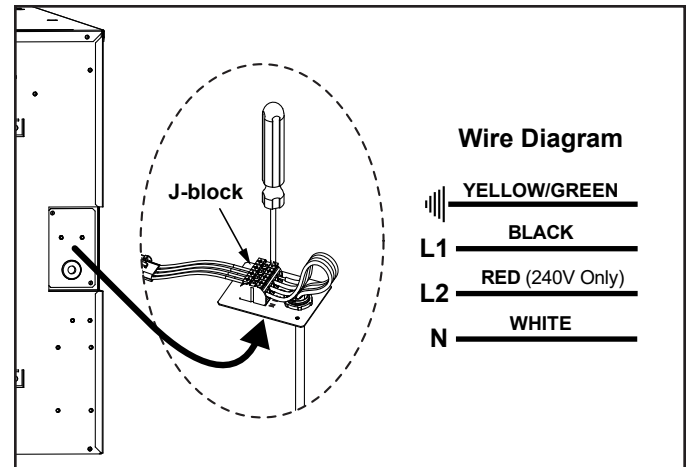

Figure 24 Electrical Connection
1. Remove the J-block plate located on the right side of the appliance. Keep the two (2) screws for J-block plate reassembly.
2. Install a NM-B wire strain relief into the J-block plate. Terminate type NM-B wire to the J-block, ensure connections are secure and tighten the wire strain relief. To load wire conductors into the J-block, depress the spring-loaded terminals on the J-block by hand or with a screwdriver. See Figure 24.
3. Reinstall the J-block plate to the appliance with the two (2) retained screws.